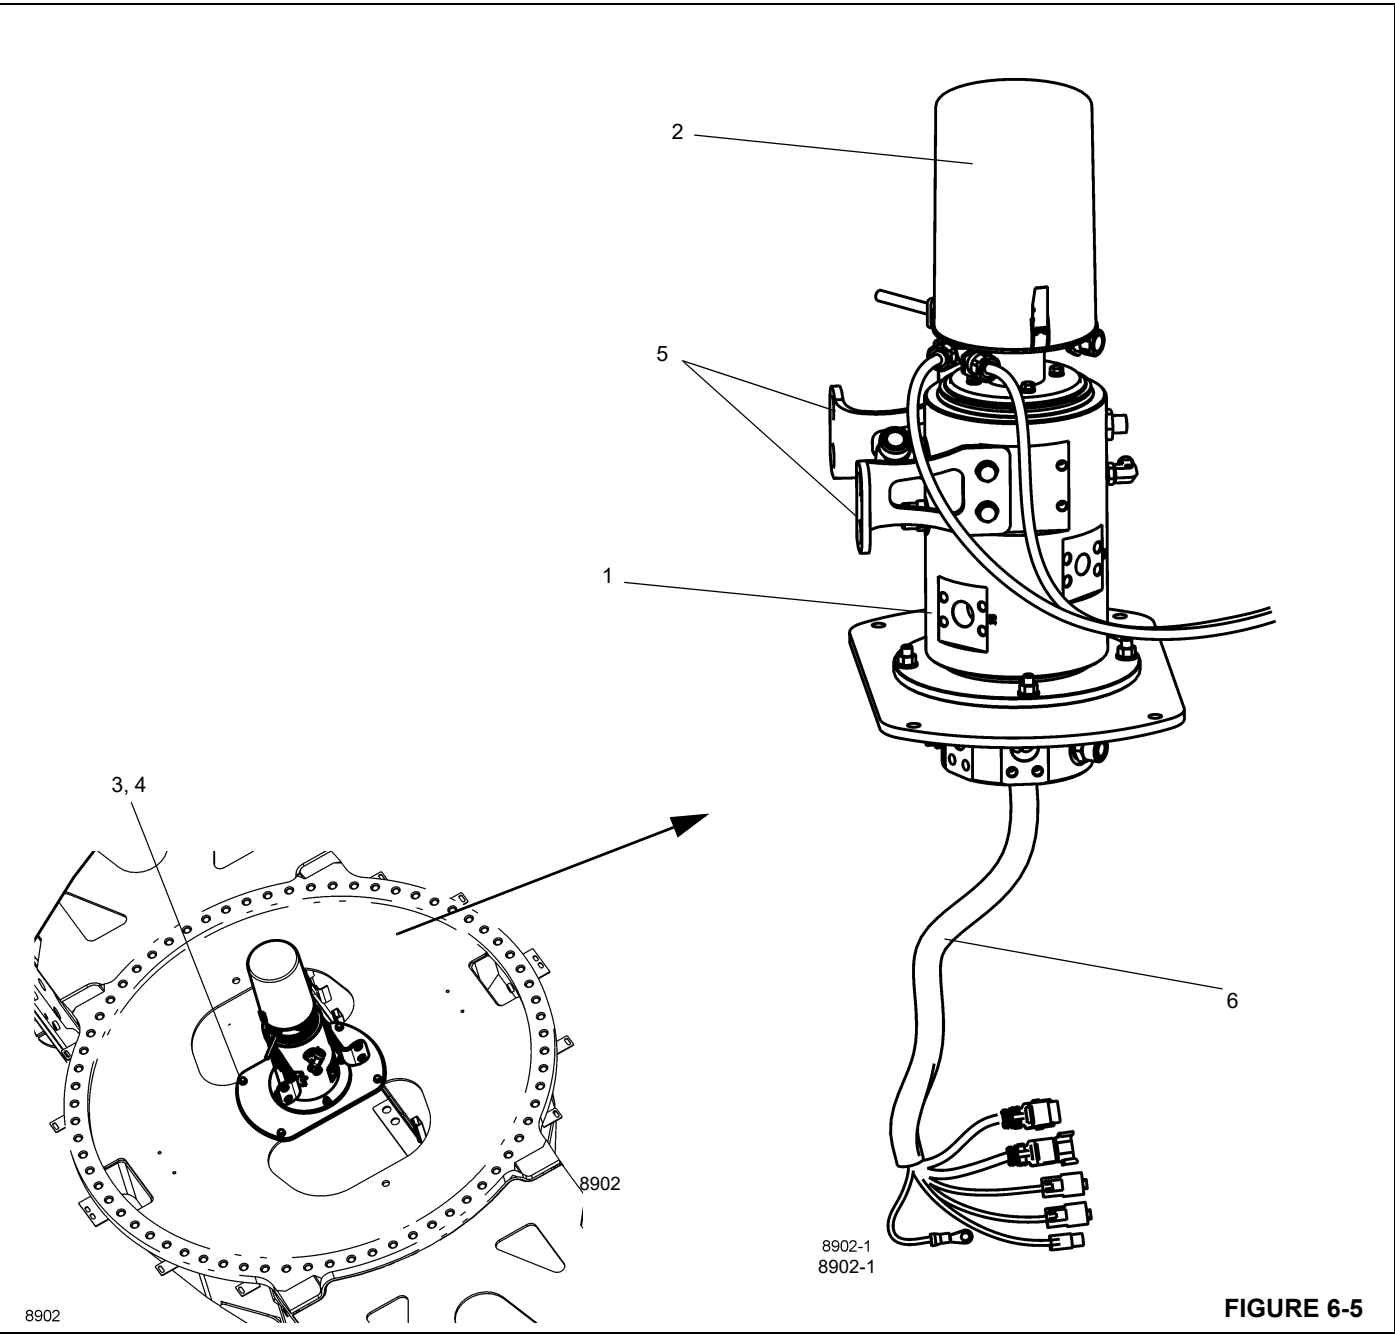

FIGURE 6-5
The swivel assembly consists of a 6 port hydraulic, 2 port air conditioning swivel and 20 conductor slip ring assembly (2) (Figure 6-5). Solid connections cannot be used to transfer oil, heater hot water and electricity between the carrier and superstructure due to the continuous 360 degree swing. The use of swivels efficiently accomplishes this function.
The barrel portion of the hydraulic swivel is attached to the turntable base plate by four bolts (3), washers (4) and bushings (6) (Figure 6-5), which connect to mounting lugs (7) on the case. The spool portion of the swivel rides upon a thrust ring at the top of the swivel case. The spool portion is held stationary with the carrier by bolts, and bolt retainer plates attached to the swivel retainer plate (9) which engages the carrier frame lugs with bolts and jam nuts (10).